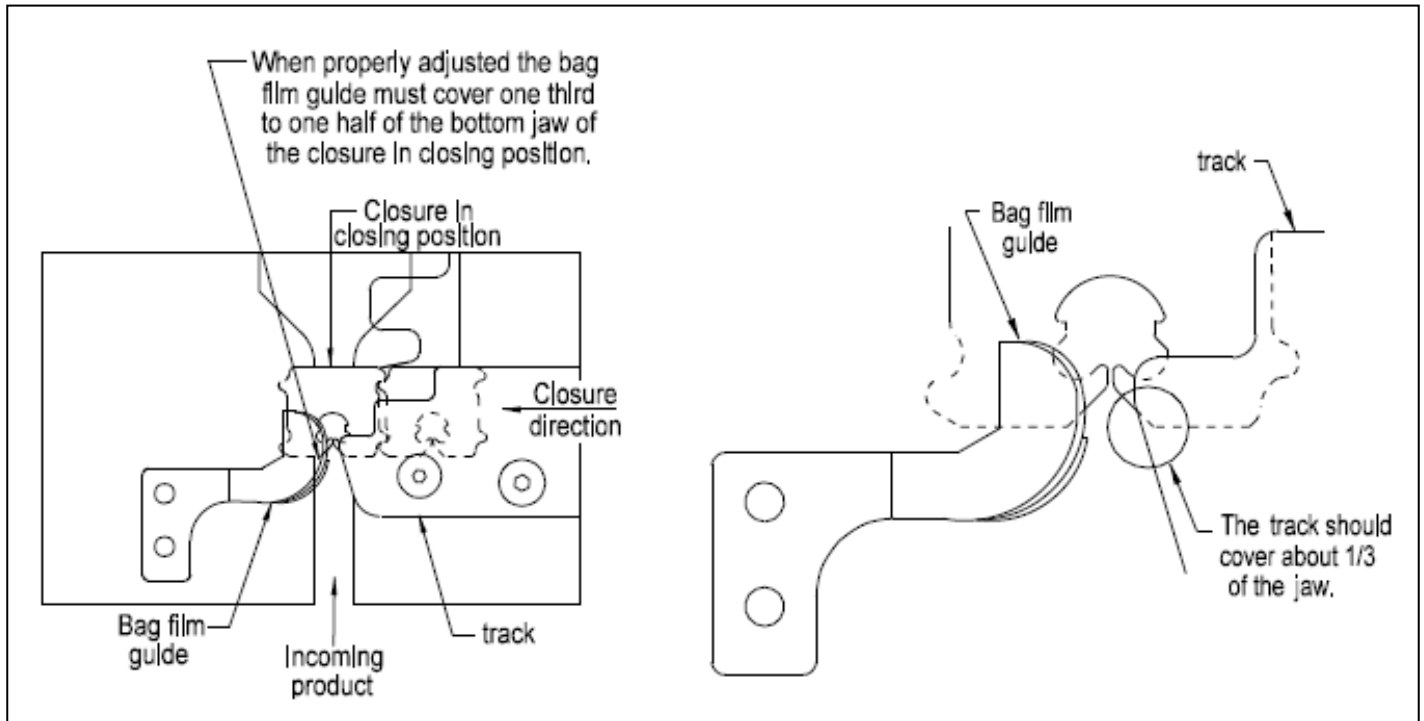

Figure 5.3
5. Cycle the closure strip through the track until the end closure is in the closing position. *Figure 5.3.*
6. Loosen the pick connecting rod locking nuts and rotate the rod to the desired direction. Rotating the connection rod changes position of the index pick, which directly changes the position of the closures in the track. Continue to adjust until the end closure in the strip is in the closing position shown in *Figure 5.3*.